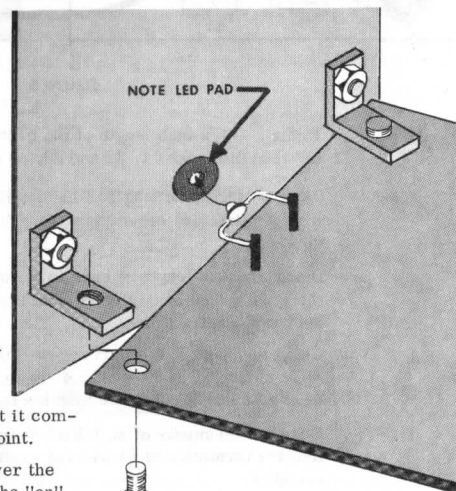

figure 6
- ( ) When mounting the circuit board to the front panel note that the dome front of the LED is designed to fit into the small hole in the front panel. To most easily accomplish this, "cock" the circuit board in relation to the front panel and pass one 4-40 screw through the circuit board into the threaded hole in the "L" bracket as shown in fig. 6. DO NOT COMPLETELY TIGHTEN THIS SCREW.